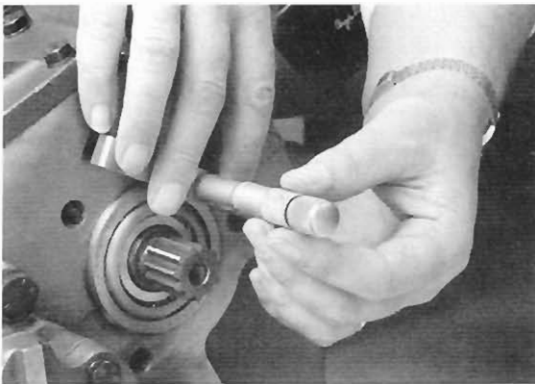

Fig. 17
1. Press the bearing outer cup firmly into position and measure between the face of the gearcase and the top of the bearing outer as shown in Fig. 17.